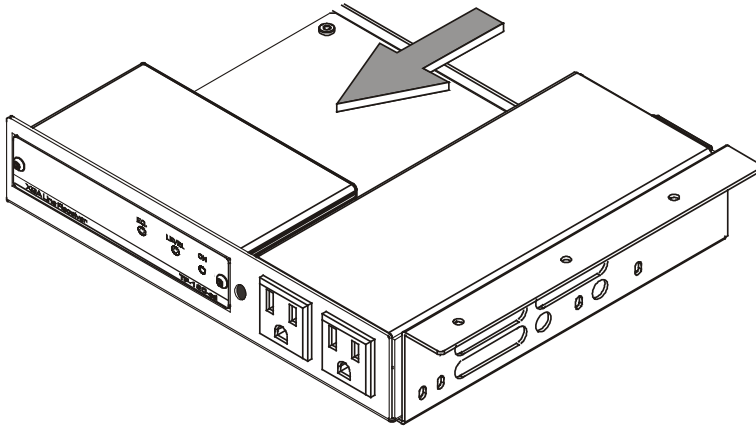

Figure 4: Sliding the TOOL
- Slide the TOOL with the attached bracket so that the TOOL front panel faces the TOOL opening on the **RK-1UTB/T** and the “L” shaped bracket hole faces the TOOL bracket screw hole on the **RK-1UTB/T** front panel (see Figure 4).